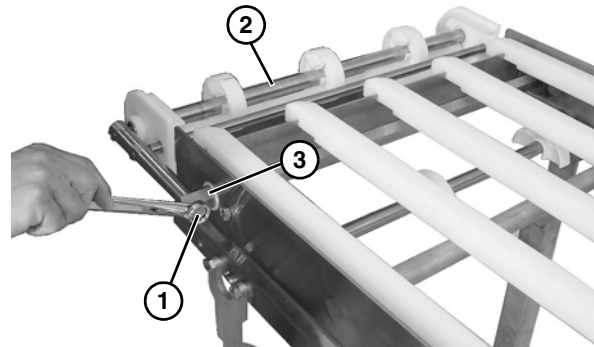

Figure 60
- Remove bolt (**Figure 60, item 1**) from each side, and remove idler tail assembly (**Figure 60, item 2**) from take up blocks (**Figure 60, item 3**).